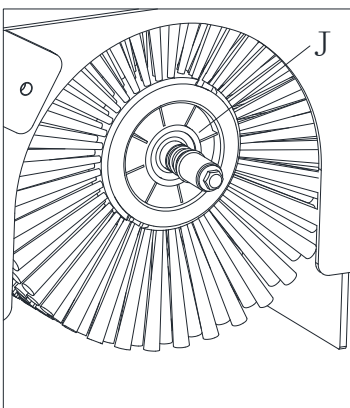
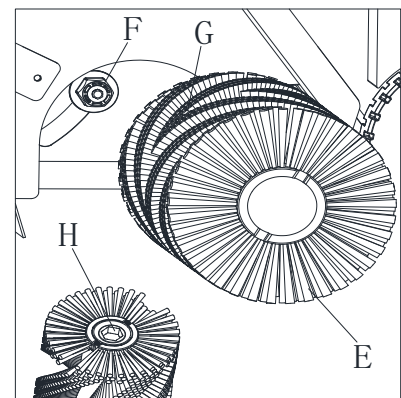

Figure 26
Figure 24
6. Remove the main broom (E, Figure 24) along with the hub (J, Figure 26).
7. Check that the drive hub (F, Figure 24) is free from dirt or foreign materials (strings, cords, etc.) accidentally rolled up.
8. The new main broom must be installed with the bristle pattern as shown in the figure (G, Figure 24).
9. Install the new main broom and ensure that the hexagonal mesh (H, Figure 24) correctly fits into the drive hub (F, Figure 24).
10. Install the hub (J, Figure 26) into the main broom.